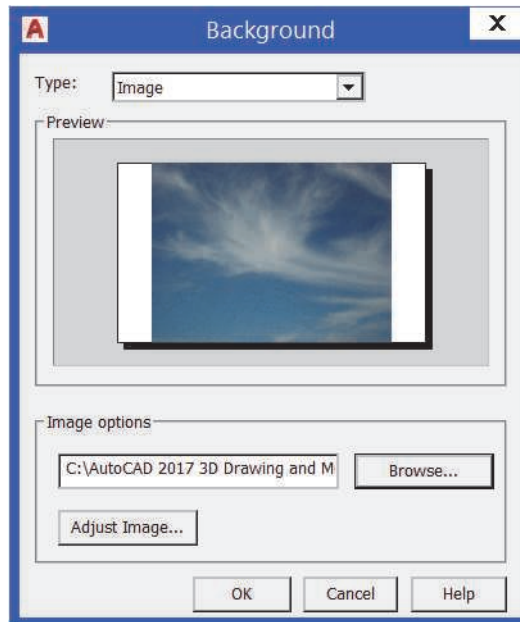

Figure 8–38
- Click **Adjust Image** and modify the *Image position* as required for the image to fill the window, as shown in Figure 8–38.